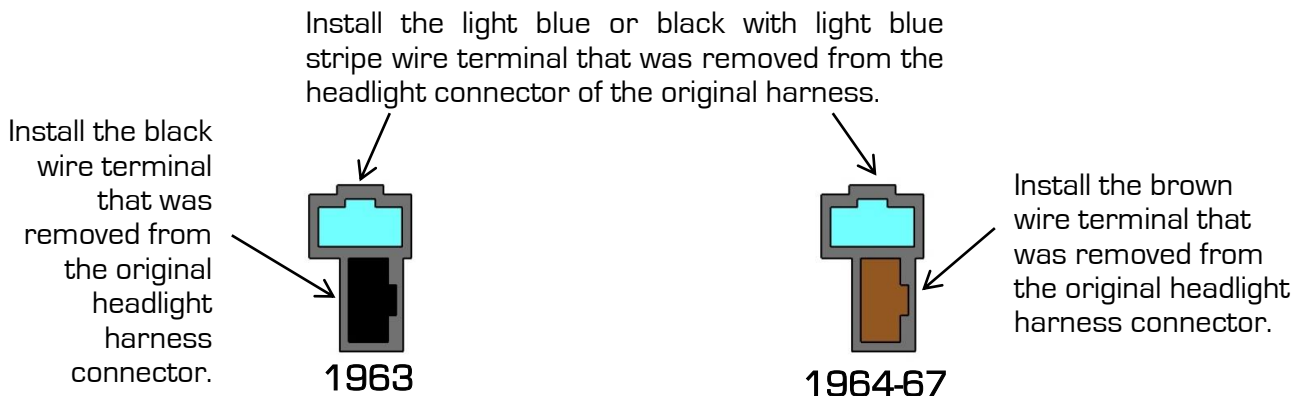

Figure 12 - End View (Harness Side)
18. Install the wire terminals which were just removed from the original headlight harness connector into the included black two terminal female Packard connector (Item 8) cavities as shown in Figure 12. Plug this connector into the white two-terminal connector on the new harness. Make sure that the wire colors correspond with each other (light blue or black with light blue stripe to light blue, brown or black to brown).